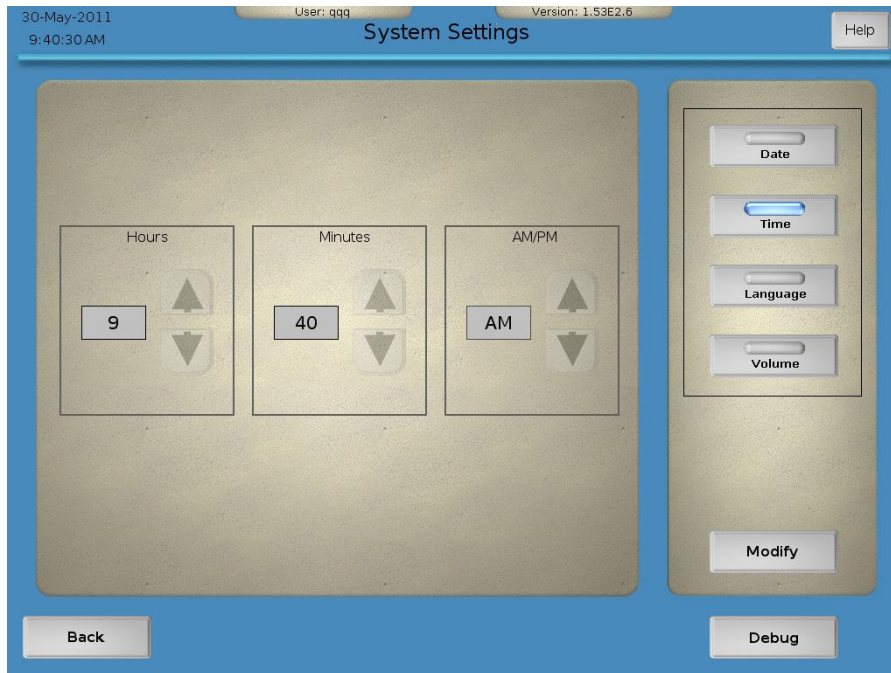

Figure 3-49. System Settings screen—time
- b) Time: Change the hours, minutes, and AM/PM by pressing on the up and down arrows (Figure 3-49). Proceed to step 3.